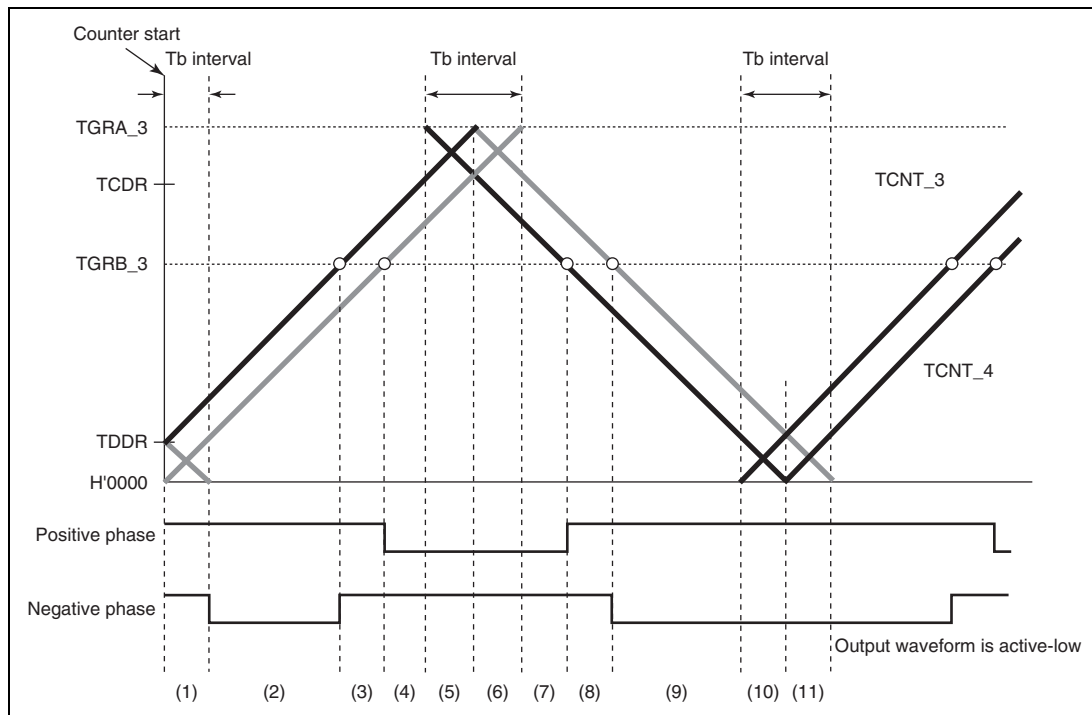

Figure 10.56 Timing for Synchronous Counter Clearing
Initial output suppression is applicable only when synchronous clearing occurs in the T_b interval at the trough as indicated by (10) or (11) in figure 10.56. When synchronous clearing occurs outside that interval, the initial value specified by the OLS bits in TOCR is output. Even in the T_b interval at the trough, if synchronous clearing occurs in the initial value output period (indicated by (1) in figure 10.56) immediately after the counters start operation, initial value output is not suppressed.
Figures 10.58 to 10.61 show examples of output waveform control in which the MTU2 operates in complementary PWM mode and synchronous counter clearing is generated while the WRE bit in TWCR is set to 1. In the examples shown in figures 10.58 to 10.61, synchronous counter clearing occurs at timing (3), (6), (8), and (11) shown in figure 10.56, respectively.
(Timing (6) in Figure 10.56; Bit WRE of TWCR in MTU2 is 1)**
(Timing (11) in Figure 10.56; Bit WRE of TWCR is 1)**
Figures 10.64 to 10.67 show examples of operation in which the MTU2S operates in complementary PWM mode and MTU2–MTU2S synchronous counter clearing is suppressed by setting the SCC bit in TWCR in the MTU2S to 1. In the examples shown in figures 10.64 to 10.67, synchronous counter clearing occurs at timing (3), (6), (8), and (11) shown in figure 10.56, respectively.
(Timing (6) in Figure 10.56; Bit WRE is 1 and Bit SCC is 1 in TWCR of MTU2S)**
(Timing (11) in Figure 10.56; Bit WRE is 1 and Bit SCC is 1 in TWCR of MTU2S)**